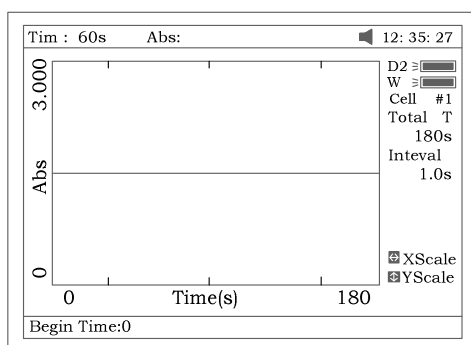
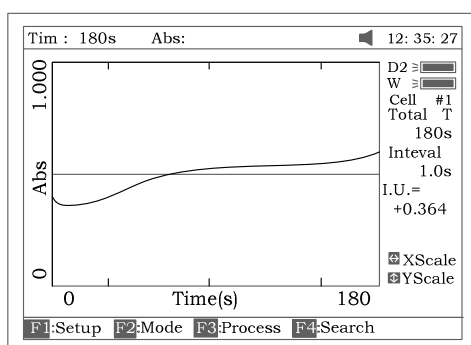

Fig 57
Fig 58
5. Press **[F3]** to process the data, and enter "Begin Time", "End Time" and "Factor" (Fig 57) and the value in I.U. will be calculated and displayed (Fig 58). The average straight line between the Begin Time and End Time will be calculated. The gradient of this line gives the rate of change of $\Delta A/\text{min}$.